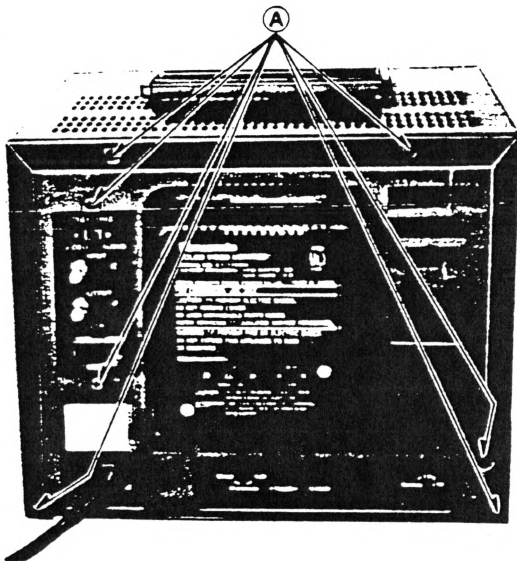

Figure 2
1. Remove 7 (A) screws shown in figure 2.